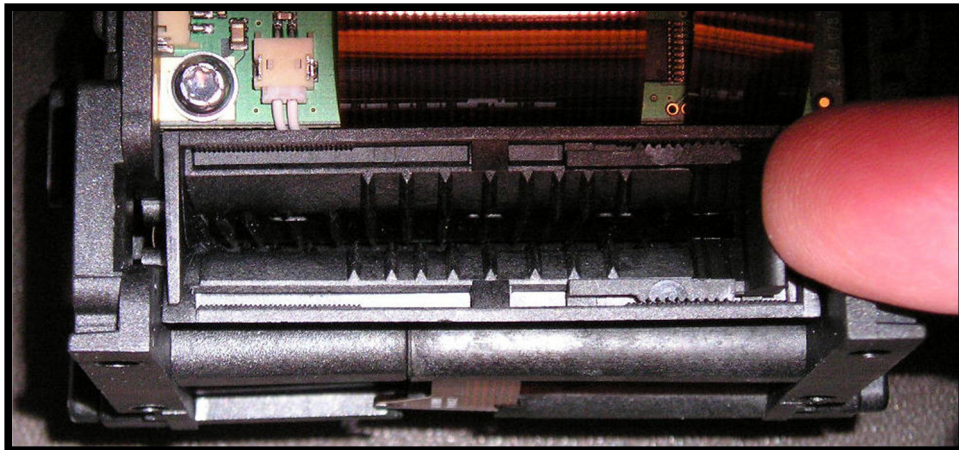

Figure 11
4. The paper guide is now installed. Push or pull on the end of the paper guide to position it where desired. (See figure 11.) You will hear the paper guide click as it locks into each position.